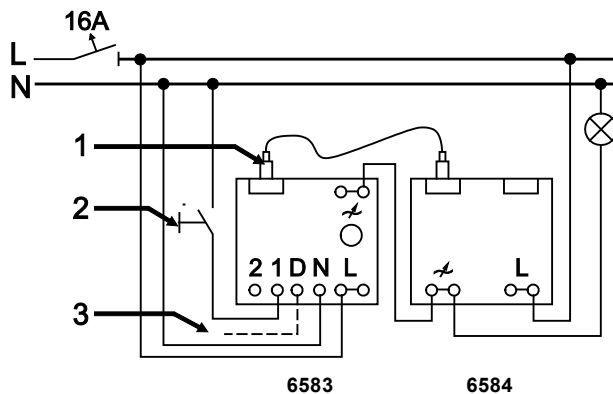

Fig. 4: Capacity booster of master dimmer 6583 with electronic power module 6584, push-button operation
1. Connect dimmer 6583 and electronic power module 6584 via the RJ12 data line; see Fig. 4 and **Fehler!**